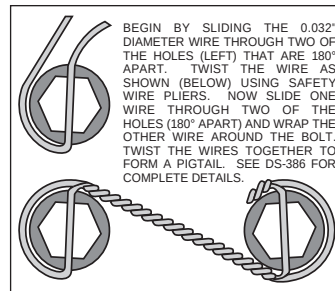

Figure 3. Safety Wire Diagram
- Install wheel studs (8) into the hub (9), Photo 1. Torque to 77 ft-lb. **NOTE:** There are two five lug patterns in the hub (5 x 4.50 and 5 x 4.75). Ensure the correct hub stud pattern is being used to fit the wheel application.
- Pack the large inner bearing cone (10) with high temperature disc brake bearing grease (available from your local auto parts store) and install into the backside of the hub (9), Photo 2.
- Install the grease seal (11) by pressing into the backside of the hub (9), flush with the end of the hub, Photo 2.
- The hat/rotor assembly (12) has been pre-assembled at the factory using red *Loctite*® 271 on the mounting bolts and torqued to specification. For an added measure of security, the bolts may be safety wired using standard 0.032 inch diameter stainless steel safety wire as shown in Figure 3. Please refer to Wilwood's data sheet DS-386 (available at www.wilwood.com/Pdf/DataSheets/ds386.pdf) for complete safety wire installation instructions.